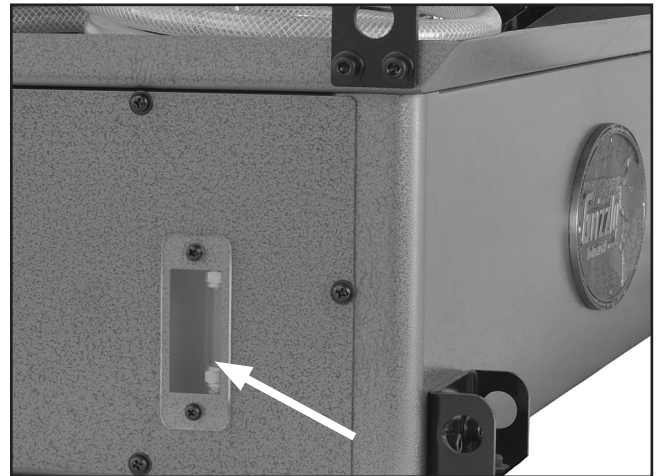

Figure 28. Coolant level sight glass.
6. Monitor the coolant level frequently to keep the system working properly. **DO NOT** let coolant level fall out of view on the sight glass (see **Figure 28**).